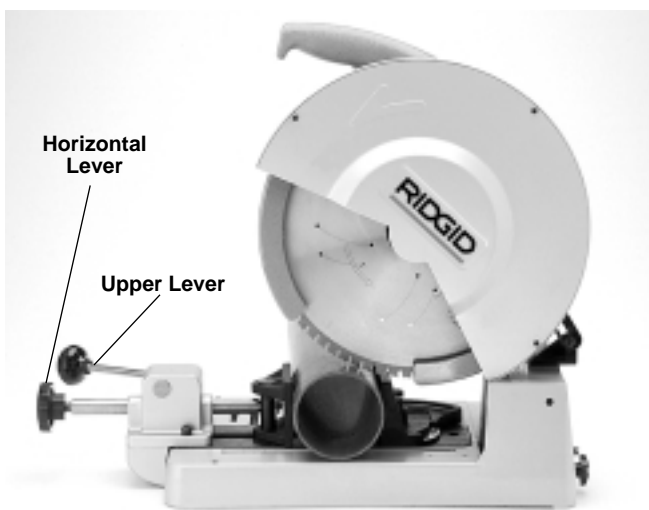

Figure 3 – Two-Lever Vise Controls
2. Raise the upper lever to release the feed mechanism (*Figure 3*). Place the workpiece into the vise. If it extends more than four (4) feet beyond the saw, use one or more pipe stands to support the workpiece.
3. Push the horizontal lever until the vise contacts the workpiece (*Figure 3*).